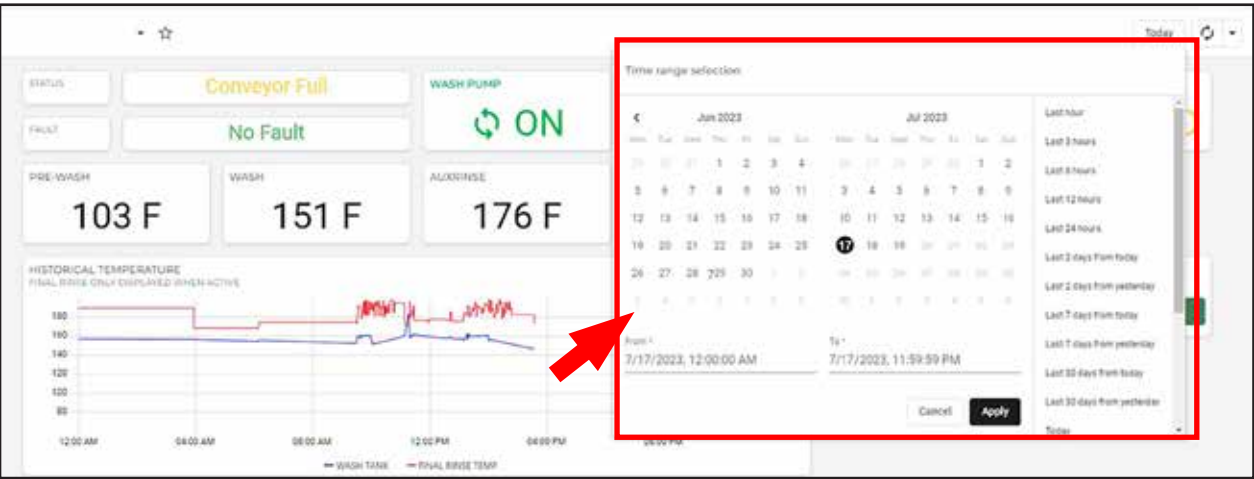

Fig. 10 - Time Range Selection Calendar
- The Time Range Selection Calendar will appear, Fig. 10.